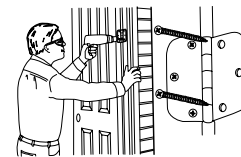

Fig. 10
- Install four #10 x 2-1/4" wood screws through the hinge jamb and into the studs; two into the top hinge in the holes closest to the weatherstrip; and one each into the other hinges in the top hole closest to the weatherstrip (Fig. 10). You may need to remove the screws supplied with the hinges to insert these longer #10 x 2-1/4" screws.